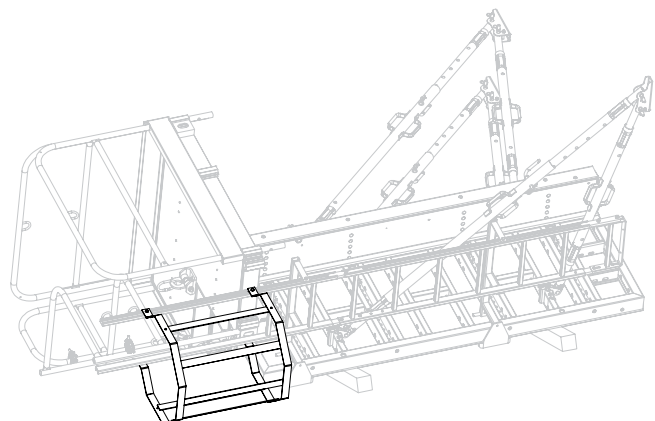

Fig. A3.08
4. Mount Ladder Safety Cage 75 or 150 (27, 28) with Clamping Plates according to plan. Depending on the situation, mount with overlapping ladder joints. (Fig. A3.08) Clear spacing between the Ladder Safety Cages \leq 30 cm.